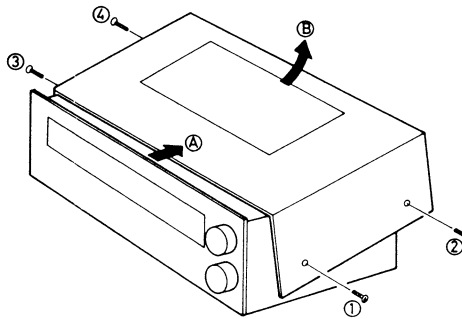

Fig. 7
1. Remove the four cabinet mounting screws (nos 1 ~ 4 screws in fig. 7).
2. Sliding it toward (A) direction and lifting it upward (B) direction as shown in fig. 7.